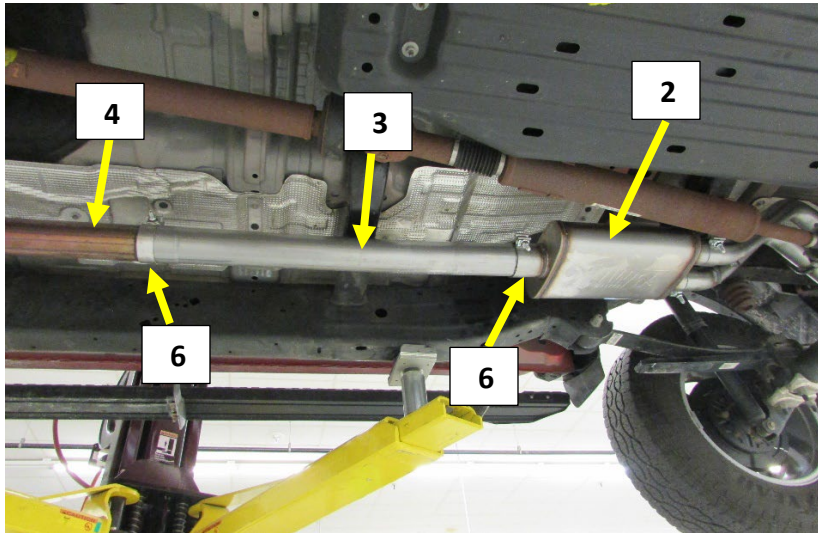

Figure.7
7. Install a 3" band clamp (6) on to the expanded and notched end of the muffler inlet pipe B (3). **Fig.7**
8. Install the muffler inlet pipe B onto the inlet pipe A (4). Rotate the Inlet Pipe B with the dog leg of the pipe towards the floor of the truck. Tighten the clamp to allow for adjustment. **Fig.7**
9. Install a 3" band Clamp (6) on to the inlet end of the Muffler (2). Install the muffler on to the Inlet Pipe B (3) approximately 2.5". Tighten the clamp with the muffler level to the ground. **Fig.7**